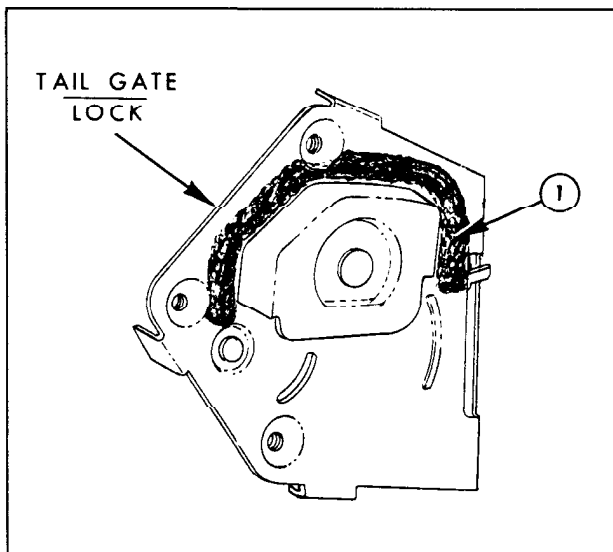

Fig. 17-197 Tail Gate Lock Sealing
5. To install tail gate lock assembly, reverse removal procedure. Prior to installing lock assembly into tail gate, apply a bead of body caulking compound to lock frame along joint of lock bolt housing, as indicated at "1". (Fig. 17-197)